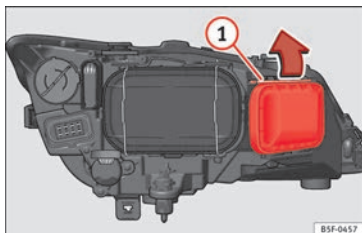

Fig. 108 Main beam headlight bulb.
- Move the loop » **Fig. 108** (1) in the direction of the arrow and remove the cover.